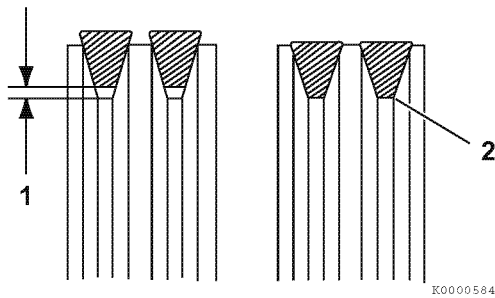

Figure 8-14
5. Inspect the condition of the V-belt. There must be clearance (Figure 8-14, (1)) between the V-belt and the bottom of the pulley groove. If there is no clearance (Figure 8-14, (2)) between the V-belt and the bottom of the pulley groove, replace the V-belt.